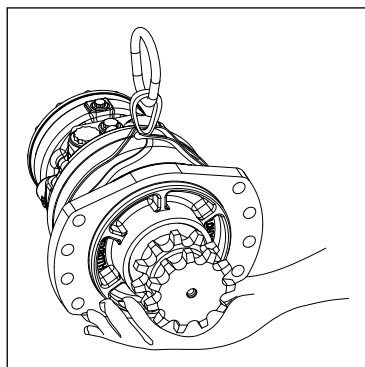

Fig. 15: Transport with lifting sling
- ▶ Ensure the radial piston motor is securely held within the sling by positioning it in such a way that it cannot slip off the end of the motor (Fig. 15).